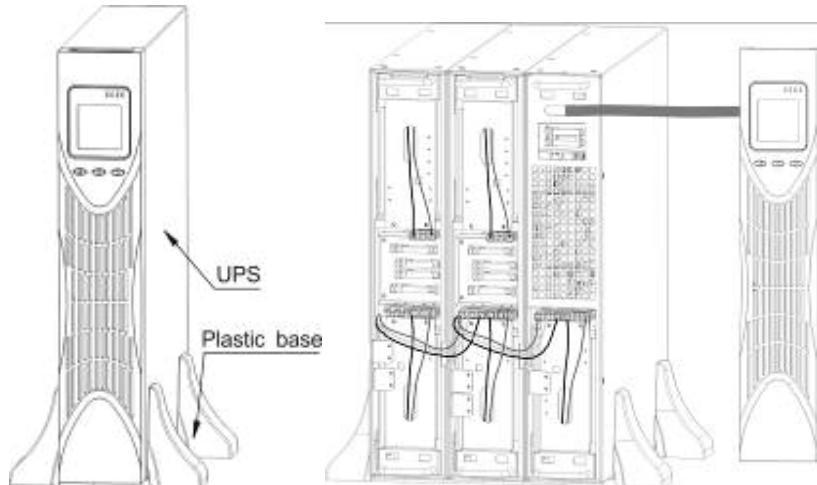

Figure 13 The installation for UPS and battery box
- **The installation between UPS and EBPS can be referred to Fig.13**
- Install the base, then place the RT UPS on the base one by one as Fig.13 shows.